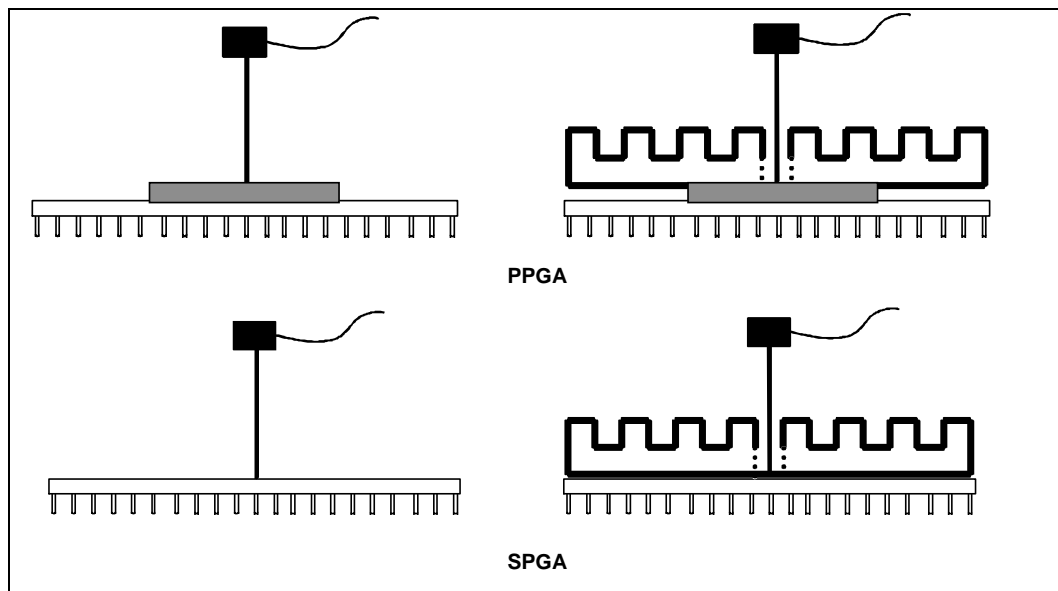

Figure 14. Technique for Measuring T_c on PPGA and SPGA Packages
To verify that the proper T_C is maintained, it should be measured at the center of the package top surface (opposite of the pins). The measurement is made in the same way with or without a heatsink attached. When a heatsink is attached, a hole (smaller than 0.150" diameter) should be drilled through the heatsink to allow probing the center of the package. See Figure 14 for an illustration of how to measure T_C .
- The thermocouple should be attached at a 90-degree angle as shown in Figure 14.